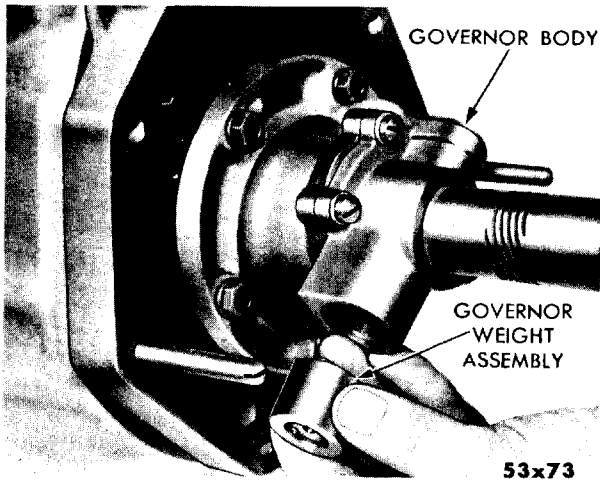
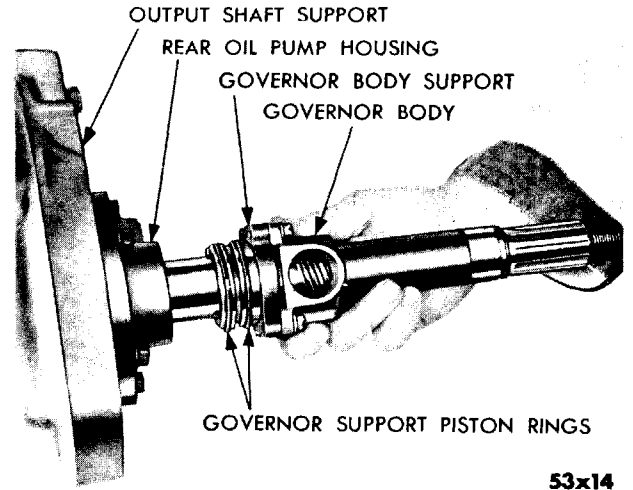
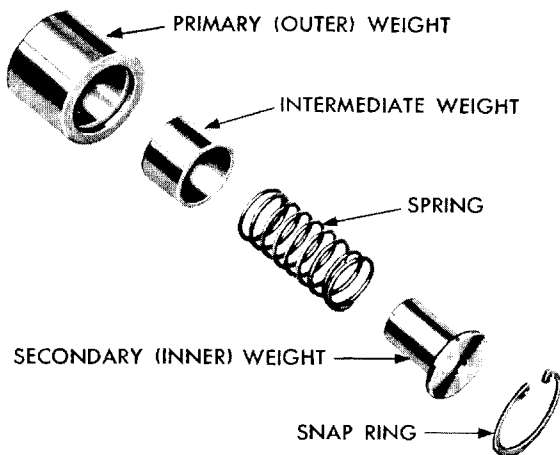

Fig. 14—Removal and Installation of Governor Weight Assembly
Fig. 16—Removal and Installation of Governor Body and Support
Fig. 15—Governor Weight Assembly (Exploded View)
(3) Using pliers, Tool C-760, remove the governor weight assembly snap ring (large one), and remove the governor weight assembly from the governor body (Figure 14). Remove governor secondary weight snap ring (Figure 15) using pliers, Tool C-3229.
(4) Remove governor secondary weight and spring and the intermediate weight. Inspect all parts (Figure 15) for burrs and wear. Check intermediate weight for free movement in primary weight by placing intermediate weight in primary weight. Intermediate weight should fall freely when both parts are clean and dry. Inspect spring for distortion and inspect secondary weight.
(5) Remove governor locating screw from the governor body and output shaft.
(6) Slide governor body and support from output shaft (Figure 16). Remove and inspect the two governor support piston rings.
(7) Remove the four governor body to support screws and lockwashers and separate body from support. Mating surfaces are machined and can be easily damaged. Inspect oil passages. Clean passages thoroughly with compressed air. Inspect valve and gover-